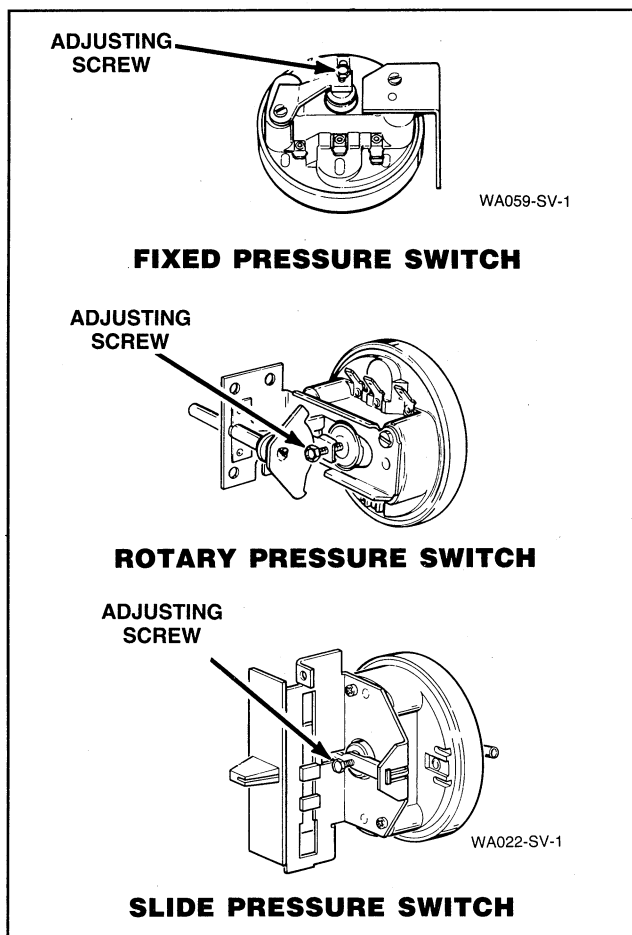

Figure 45
36. PRESSURE SWITCH (Refer to Figure 45)